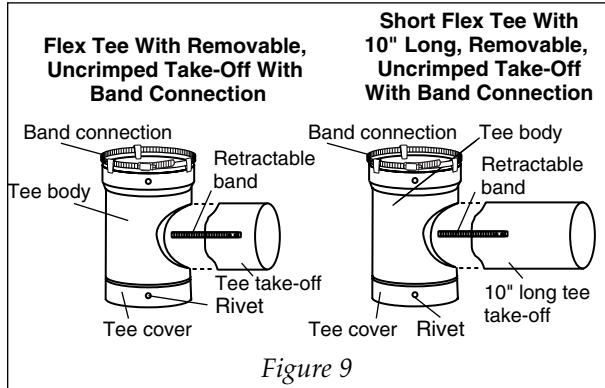

Figure 9
- To install the tee, first place the tee cover over the outside of the bottom end using four, 1/2" 316-alloy stainless pop rivets to secure (Figure 9).